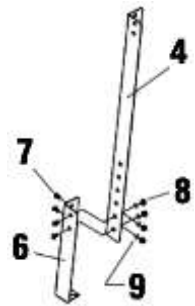

Fig. 1
1. Position the 4 extension feet (#6) on the bottom outside edges of the 4 legs (#4) (Fig. 1).
3. Insert 4 carriage bolts (#7) through the 4 mounting holes in the extension foot and leg (Fig. 1).
4. Attach spring washers (#9) and nuts (#8) to the carriage bolts and tighten them partially (Fig. 1).